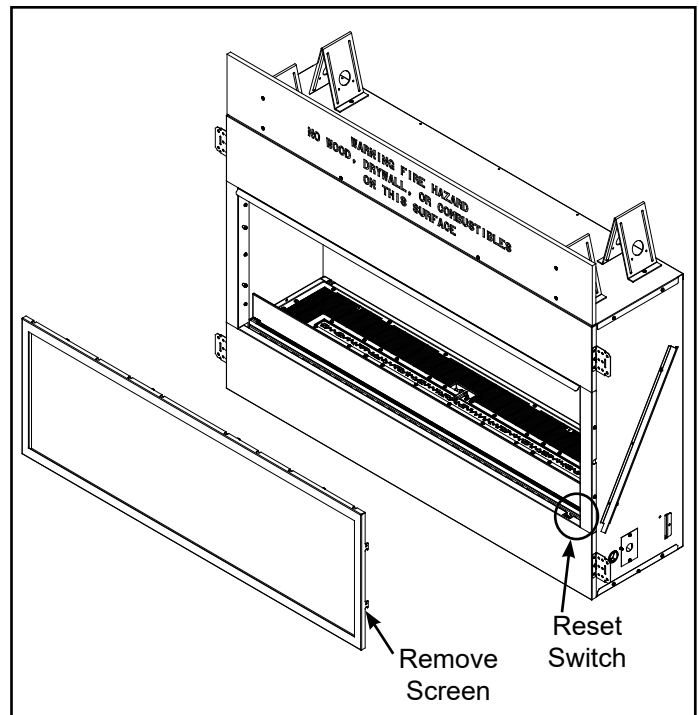

Figure 3.9 Reset Switch
- Turn the reset switch in the front face to the off position. See Figure 3.9
Remote control or control module failure	Turn off appliance by setting the reset switch in the front face to the OFF position. Warning! Risk of Burns! Appliance is hot. Use caution when accessing module. See Figure 3.9.